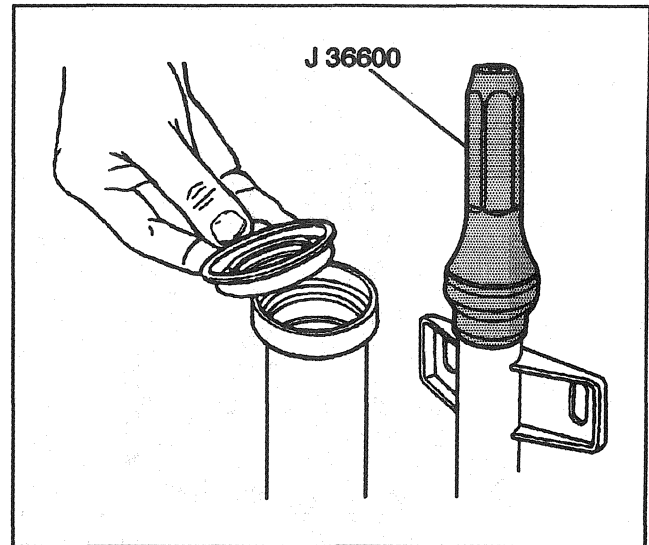

Figure 44—Installing the Axle Tube Seal
2. Seal. Use J 36600 (K1 and K2 models) or J 22833 (K3 models) (Figure 44).